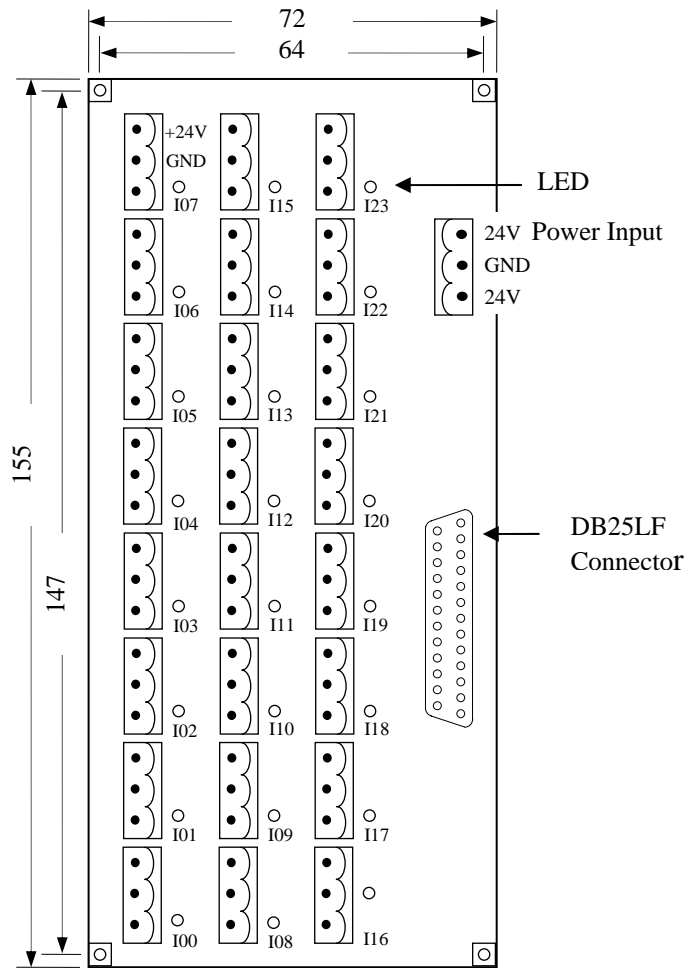

Fig 5-2 HUST Input Board (NPN-type)
2. Connect input signal to the corresponding terminal of HUST input board, then connect from DB25LF connector on the board to the connector on the controller box. HUST input board is shown in Fig 5-2. The advantage of using input board is to protect the controller circuits from being damaged in case of short circuit. This method of connection is suitable for NPN-type input connector only.